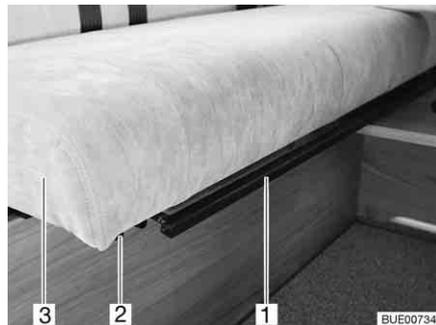

Fig. 20 Backrest adjustment mechanism for bench
- Pull or press the bar (Fig. 20,1) under the seat (Fig. 20,3) upwards and hold it in this position.
- Push the seat on the rails (Fig. 20,2) to the desired position or carefully pull it forwards as far as it will go.